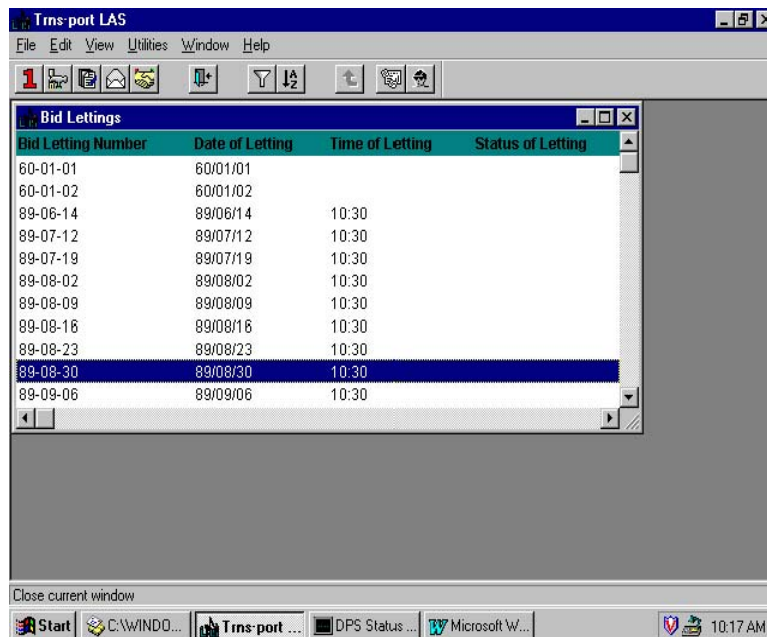

Figure 10-1. Bid Lettings List Window
5. Run the process. Click the BIDLETS button to display the Bid Lettings list window (see Figure 10-1).